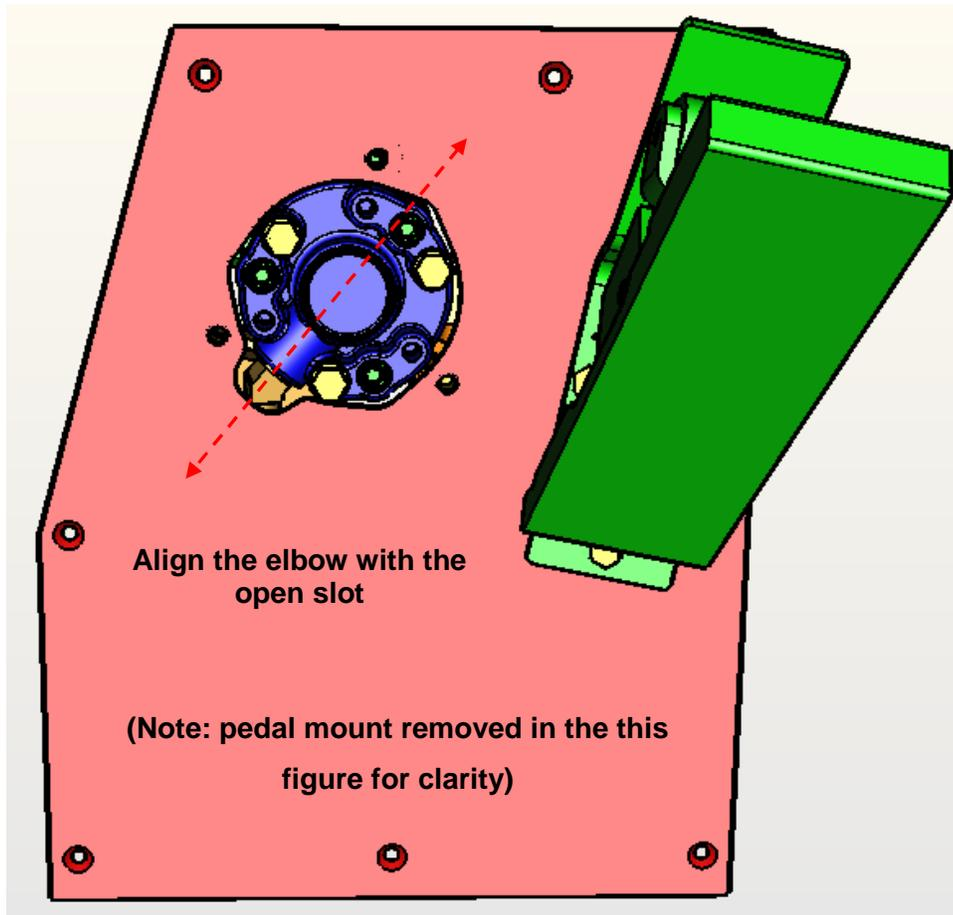

Figure 14: Align the BVA Valve with the New Plate
29. Align the BVA valve and the 45 degree elbow with the open slot in new plate as shown in Figure 14.